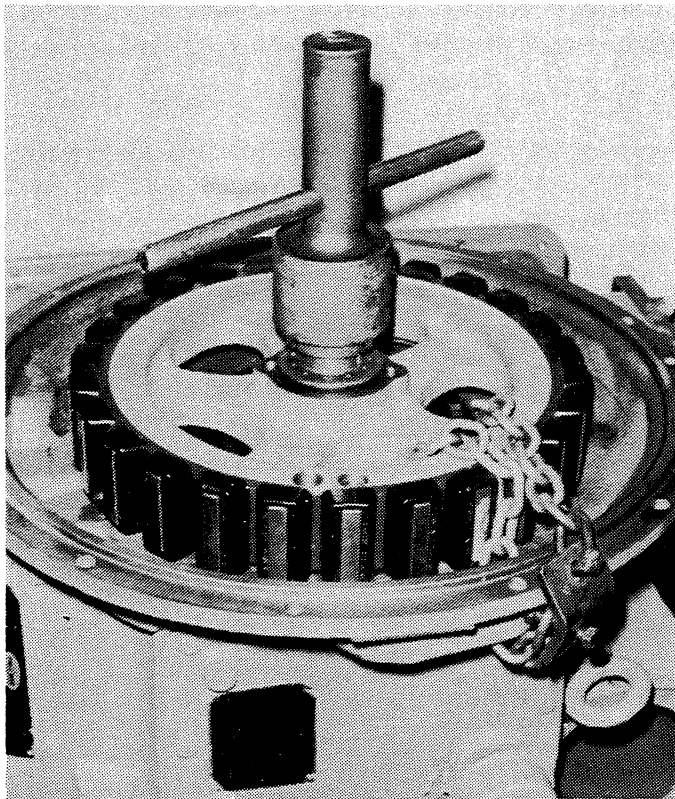

Figure 6-27. *Removing or Installing Bearing Locknut.*
10. Remove the bearing locknut. See Figure 6-27.